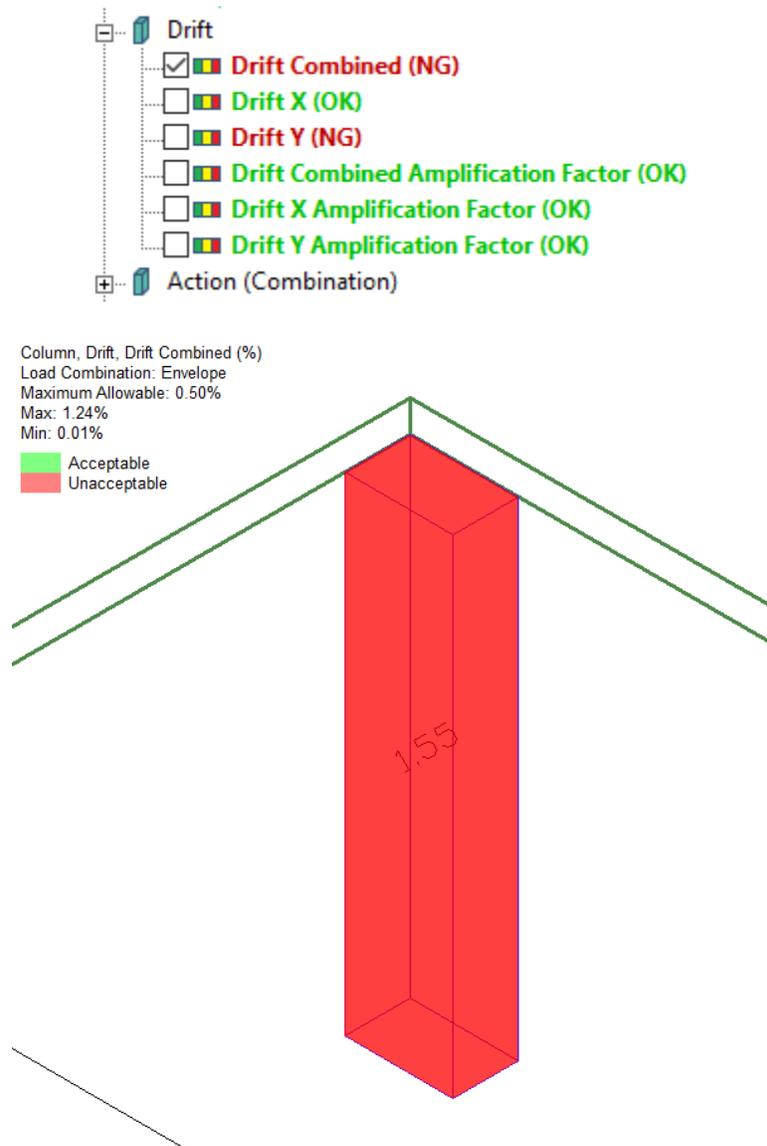

Figure 14-3
- In the same *Column* tree of the *Results Browser*, expand the *Drift* tree and select the option for *Drift Combined*. **FIGURE 14-3** shows the drift results. Note the